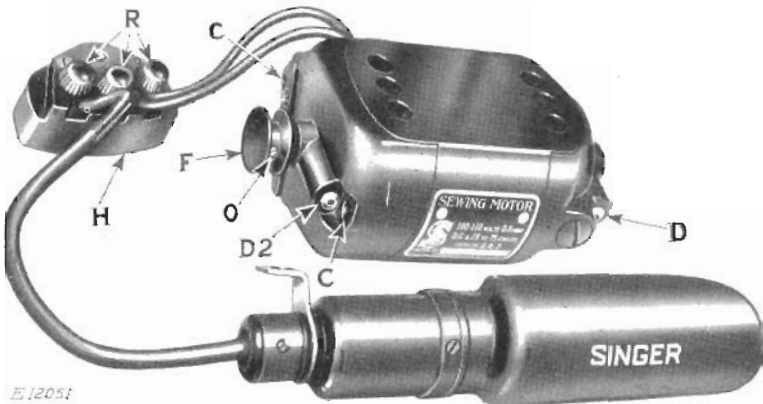
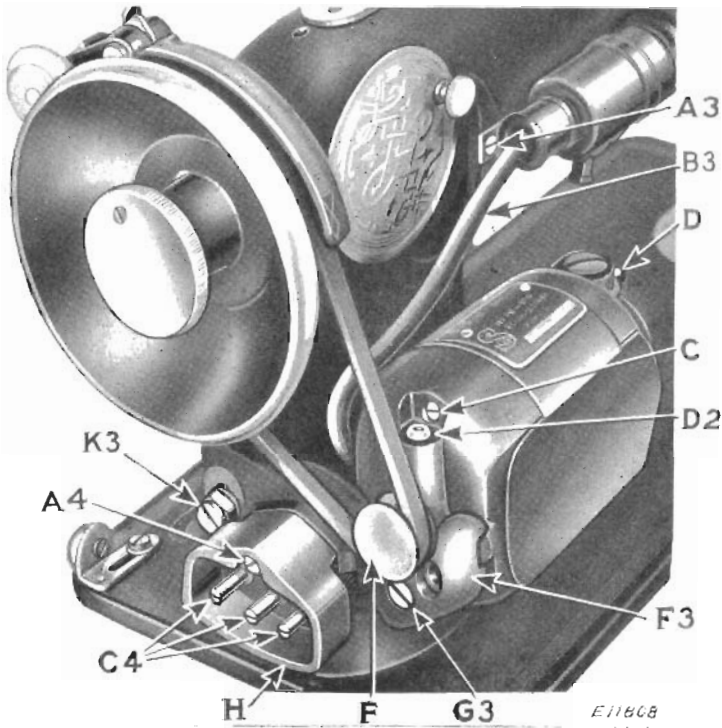
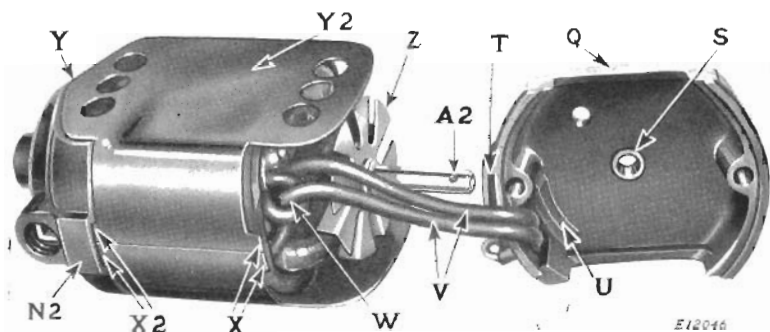
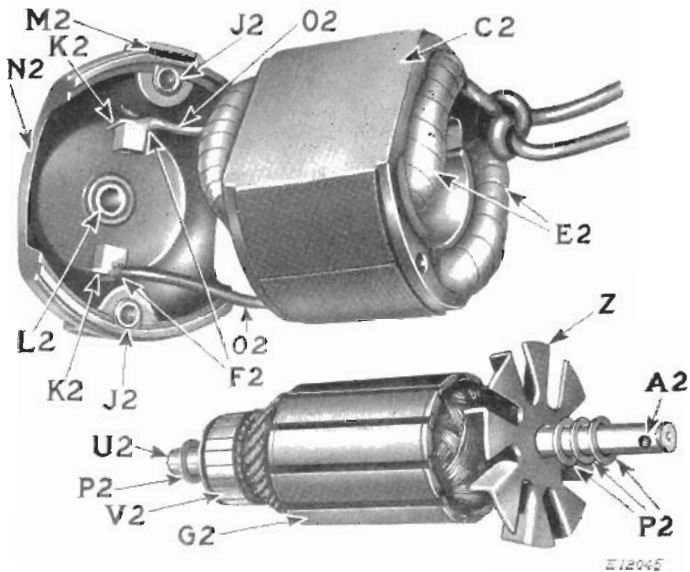

FIG. 20. MOTOR THREE-PIN TERMINAL AND SINGERLIGHT
FIG. 22. MOTOR SINGERLIGHT AND THREE-PIN TERMINAL IN PLACE ON MACHINE 201-3
FIG. 23. MOTOR --PULLEY END COVER-REMOVED
FIG. 24. MOTOR—PULLEY END COVER, COMMUTATOR END COVER AND ARMATURE REMOVED
The motor, three-pin terminal and Singerlight may be removed as a unit, as shown by Fig. 20, as a matter of convenience when
inspecting electrical connections. Take out screw (A4, Fig. 22) and remove the three-pin terminal from its seat on the motor bracket. Disconnect the controller leads from terminals Nos. 1 and 2, and turn aside the arm side cover to expose screw (A3, Fig. 22) which fastens the Singerlight to the sewing machine. Remove screw (A3, Fig. 22) and Singerlight.
Take out screw (G3, Fig. 22) which fastens the motor to its bracket (F3, Fig. 22) and remove the motor.
**Remove Pulley.** Take out screw (O, Fig. 20) and remove the pulley (F, Fig. 20) from the armature shaft.
**Remove Pulley End Cover—Machine 201-3.** Remove the two through screws (C, Figs. 20 and 22) —only the upper of the
two screws (C) is shown in Fig. 22, the lower one being concealed by the motor bracket. Carefully take the pulley end cover (Q, Fig. 23) off the field core (C2, Fig. 24), drawing it to the ends of the motor leads (V) as shown in Fig. 23. **Do not pry it off, as such action would ruin this Bakelite cover.**
**Remove Brushes—Machine 201-3.** Take out the two screw caps (Z2, Fig. 25). When the screw caps are removed, the brush springs may protrude from the screw holes and the brushes can then be easily withdrawn. In case the brushes stick in the brush tubes, they can be conveniently removed after removal of the armature (G2, Fig. 24). See "Remove Armature" following. It is advisable to mark the brushes at (B1 and B2, Fig. 25) to insure their being replaced in the same relative position as before removal.
**Remove Armature—Machine 201-3.** The removal of the pulley end cover (Q) exposes the pulley end (A2) of the armature shaft, by means of which carefully withdraw the armature from the motor.
If the wiring is not damaged, clean the commutator (V2, Fig. 24) with a dry, clean cloth before assembling the motor. If it is impossible to get the commutator bright by this means, use an ordinary rubber eraser. **Never use anything else on a small motor commutator.**
**Remove Field Core Shield—Machine 201-3.** With the pulley end cover removed, the field core shield (Y2, Fig. 23) is removed from the pulley end of the motor.
**Remove Commutator End Cover—Machine 201-3.** Be especially careful in taking off the commutator end cover (N2, Fig. 24).
Fig. 24). With the pulley end cover, armature, core shield and brushes removed, the commutator end cover (N2) should come off very easily. An uncontrolled strong pull or jerk would strain or break the field leads soldered connections (F2) at the brush tubes.
**Inspect Wire Connections to Brush Tubes—Machine 201-3.** Examine both field lead connections (F2, Fig. 24) at brush tubes. If there are any loose strands of wire, they should be cut off. Make certain that the field leads (O2, Fig. 24) are firmly attached
(clamped and soldered) to the brush tube terminals (K2, Fig. 24) and that the terminals (K2) are firmly soldered to the brush tubes as shown in Fig. 24.
**Replace Commutator End Cover.** Put the commutator end cover (N2, Fig. 24) in place on the field core (C2, Fig. 24). To make sure that the field leads (O2, Fig. 24) are safely positioned after the commutator end cover is in place on the field core, observe the field leads from the pulley end of the motor with pulley end cover (Q, Fig. 23) and armature (G2, Fig. 24) removed. If the wires are not properly placed (to avoid contact with the armature or commutator) they can be reached through the field coils (E2, Fig. 24) with pulley end cover and armature removed.
**Replace Field Core Shield—Machine 201-3.** Put the shield (Y2, Fig. 23) on the field core (C2, Fig. 24) with peaked end (Y) of the shield toward commutator end cover (N2) and with the two lugs (X2, Fig. 23) in the slot (M2, Fig. 24) in the commutator end cover (N2).
**Replace Armature—Machine 201-3.** When the armature shaft was withdrawn from its bearing (L2, Fig. 24) in the commutator end cover, the spring pressured grease wick projected into the shaft bearing (L2). To avoid damage to the grease wick and binding of the armature shaft, the grease wick must be pushed back into the grease wick tube before the armature shaft is reinserted into its bearing in the commutator end cover. Use a small screw driver to push the grease wick back into the grease tube (D, Figs. 20 and 22) while inserting the end (U2) of the armature shaft into the bearing (L2) in the commutator end cover.
**Replace Pulley End Cover—Machine 201-3.** Push the grease wick up into the grease tube (D2, Figs. 20 and 22) in the pulley end cover (Q, Fig. 23), using the method suggested under "Replace Armature" at the bottom of the preceding page. Be sure that the washers (P2, Fig. 24) are on the armature shaft. Put the pulley end cover (Q, Fig. 23) on the field core (C2, Fig. 24) and see that the lugs (X, Fig. 23) of the shield (Y2) enter the slot (T) for the same in the pulley end cover. Pull on the motor leads (V, Fig. 23) to make certain that the knot (W) is held by the projection (U) on the inside of the pulley end cover, otherwise the motor leads will be in the way of the fan (Z) on the pulley end of the armature shaft. Insert and tighten the two through screws (C, Figs. 20 and 22) alternately and a little at a time, and make sure that the end covers (Q) and (N2) are solidly and accurately seated on the field core (C2) to insure perfect alignment of the armature shaft bearings (S) and (L2). Otherwise the armature will not rotate freely. Turn the shaft with the fingers to ascertain that it revolves freely.
**Replace Pulley—Machine 201-3.** Put the pulley (F, Figs. 20 and 22) on the armature shaft, with the screw hole in the pulley aligned with the screw hole (A2, Figs. 23 and 24) in the shaft. Insert screw (O, Fig. 20) and turn it all the way in.
Attach the motor to the motor bracket (F3, Fig. 22) so that the lower screw hole in the pulley end cover is at the lower hole (G3, Fig. 22) in the motor bracket, and insert and tighten the screw (G3, Fig. 22). Pass the motor leads (V, Fig. 23) beneath the motor bracket (F3, Fig. 22) and attach the motor lead without identification tubing to pin No. 2, and the lead with the red identification tubing to pin No. 3 of the three-pin terminal.
Fasten the Singerlight bracket, with Singerlight, to the machine arm by means of screw (A3, Fig. 22), and pass the Singerlight leads (B3, Fig. 22) down between the pulley end of the motor and the balance wheel end of the machine, and beneath the motor bracket (F3, Fig. 22). Fasten the lead with the yellow identification tubing to pin No. 1, and the lead with the red identification tubing to pin No. 3 of the three-pin terminal. Each of the three pins of the three-pin terminal (H, Fig. 22) is provided with a washer. Make sure that these washers are placed above the wire or wires, then firmly tighten the thumb nuts (R, Fig. 20).
Attach the three-pin terminal (H, Fig. 22) to its seat on the motor bracket (F3, Fig. 22) by means of the screw (A4, Fig. 22).
**Adjust Belt Tension—Machine 201-3.** Loosen screw (K3, Fig. 22), which fastens the motor bracket (F3, Fig. 22) to the sewing machine, sufficiently to permit the placing of the belt in its groove on the balance wheel of the machine and on the motor pulley. With the belt in place on the balance wheel and motor pulley, move the motor bracket (F3, Fig. 22), with motor attached, up or down on its seat on the machine until correct belt tension is obtained, then firmly tighten screw (K3, Fig. 22). Tension should be just sufficient to drive the sewing machine without belt slippage.
**To Lubricate the Motor—Machine 201-3.** Insert the tip of the motor lubricant tube in the hole in the grease tubes (D and D2, Figs. 20 and 22) and squeeze in a quantity of lubricant sufficient to fill the grease tubes.